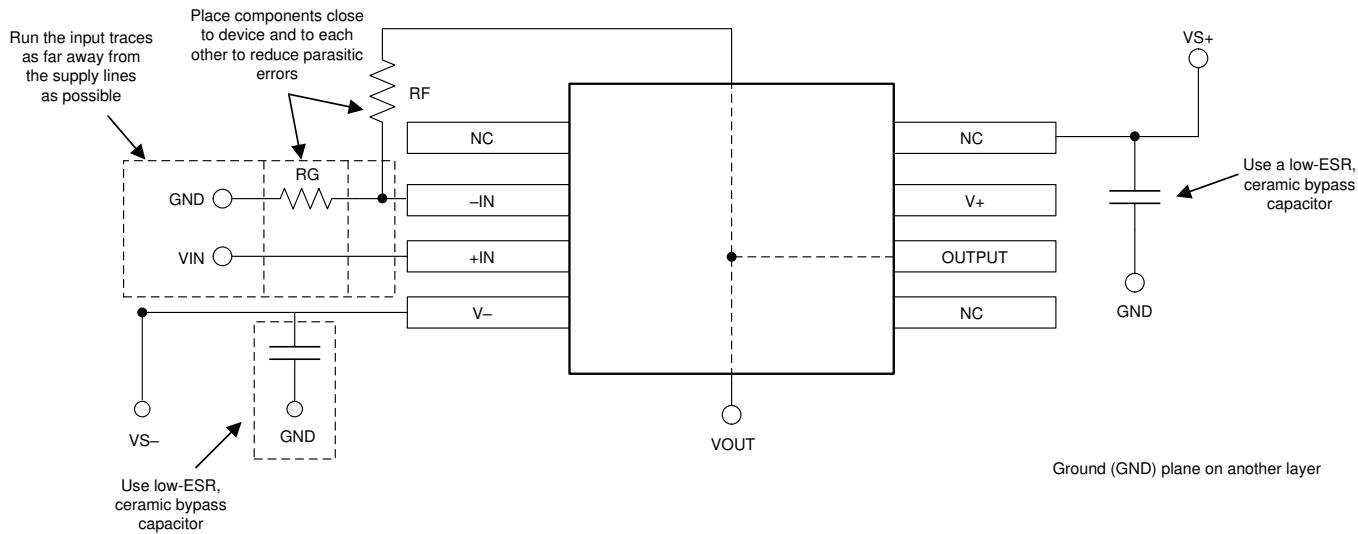

图 7. Operational Amplifier Board Layout for Noninverting Configuration
- Place the external components as close to the device as possible. As illustrated in Figure 7, keeping RF and RG close to the inverting input minimizes parasitic capacitance.